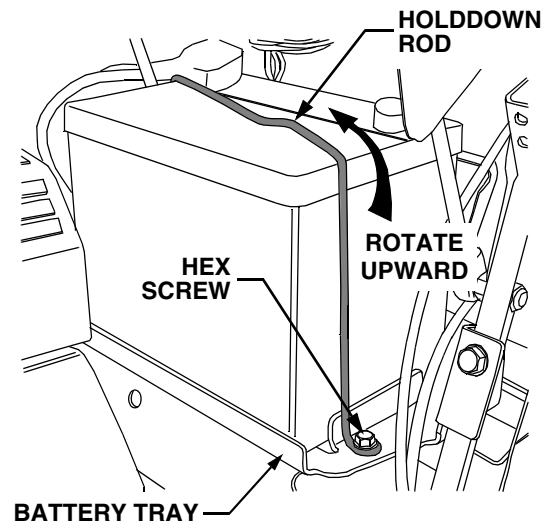

Figure 27
2. Remove the hex screw securing the LH side of the holddown rod to the battery tray (See Figure 27).